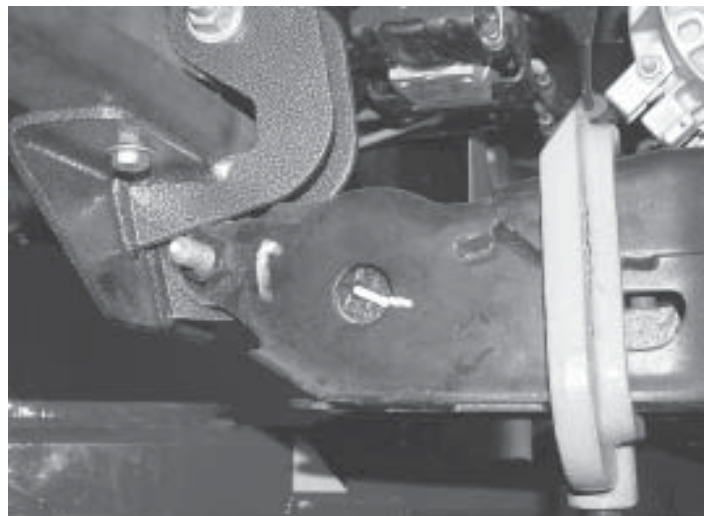

Fig. 4
- F. Mark the adjusting arms and the rear end of the bars to indicate the indexing of the bars relative to adjusting arms. **Fig. 4**